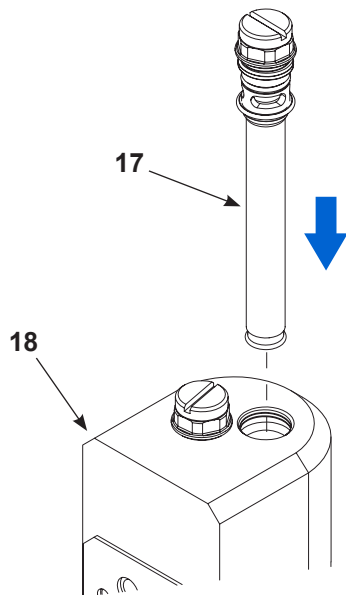

Figure 25 Fasten Fluidizing Tubes into Manifold
- See Figure 25. Insert the assembled fluidizing tube (17) into the top of the purge manifold (18). Snug fit tubes to manifold.